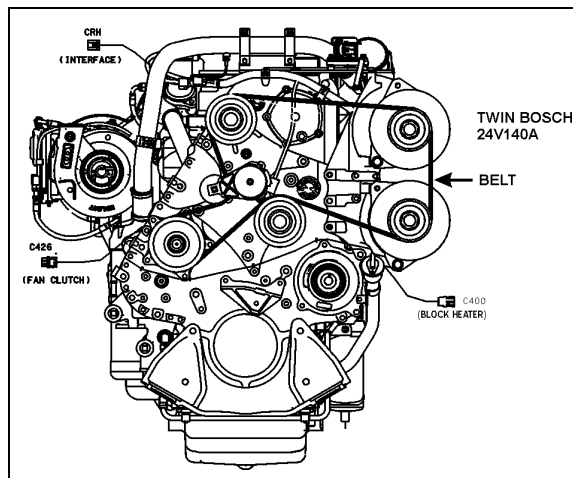

FIGURE 25: ALTERNATOR DRIVE BELT
1. Insert a $\frac{3}{4}$ " socket drive into the automatic belt tensioner opening (Fig. 25).